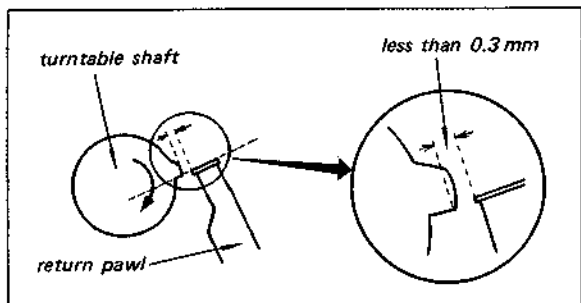

Fig. 3-18. Automatic return operation check (3)
4. Rotate the turntable shaft clockwise until the striker of turntable shaft and end of return pawl are positioned as shown in Fig. 3-18.
5. Make sure that the clearance between them is less than 0.3 mm as shown in Fig. 3-18.